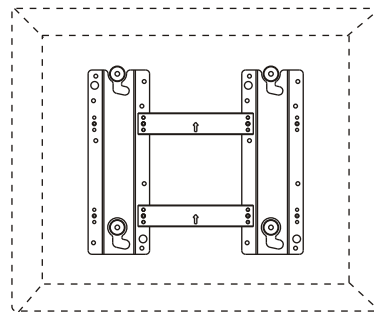

Fig.5
5. Put the back of the display unit close to the wall mounting holder, insert the four wall mounting connectors into the four calabash-shaped holes on the wall mounting holder. (Fig.5)